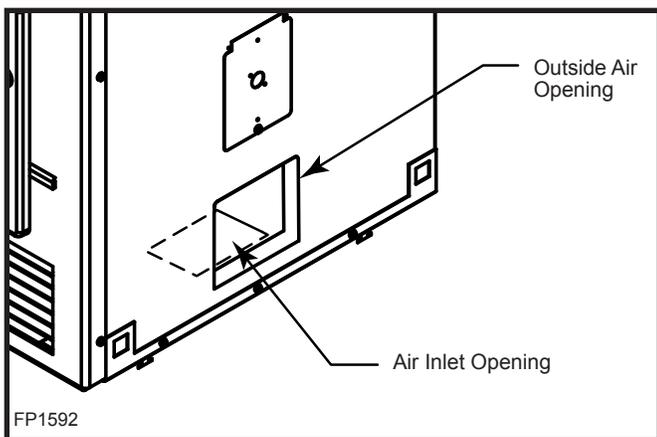

Fig. 14 Use outside air cover plate to cover air inlet opening.
1. Remove the outside air cover plate located at the center of the right side of the fireplace. Carefully insert the cover plate into the opening and cover the air inlet opening in the bottom of the firebox. (Fig. 14) Use the screws removed from cover plate to secure cover plate over opening. Use care not to rub against the sharp edges of this opening to avoid cuts.